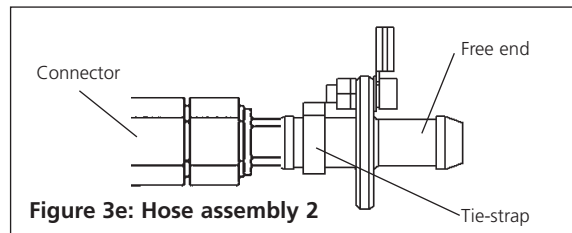

Figure 3e: Hose assembly 2
13. Refer to fig. 3e. Connect the cooling water inlet of the condenser to the connector of the 8mm bore hose of hose assembly 2. Connect the free end of the earthed spigot of hose assembly 2 to the cold water feed.